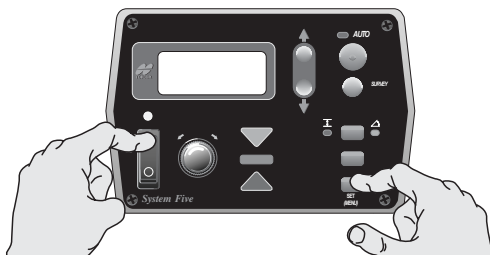

Figure 14. Accessing the Performance Menu
1. Turn power off. While holding down the Set/Menu button turn the box back on (Figure 14). The Auto LED light and Grade Adjustment Direction arrows will flash.